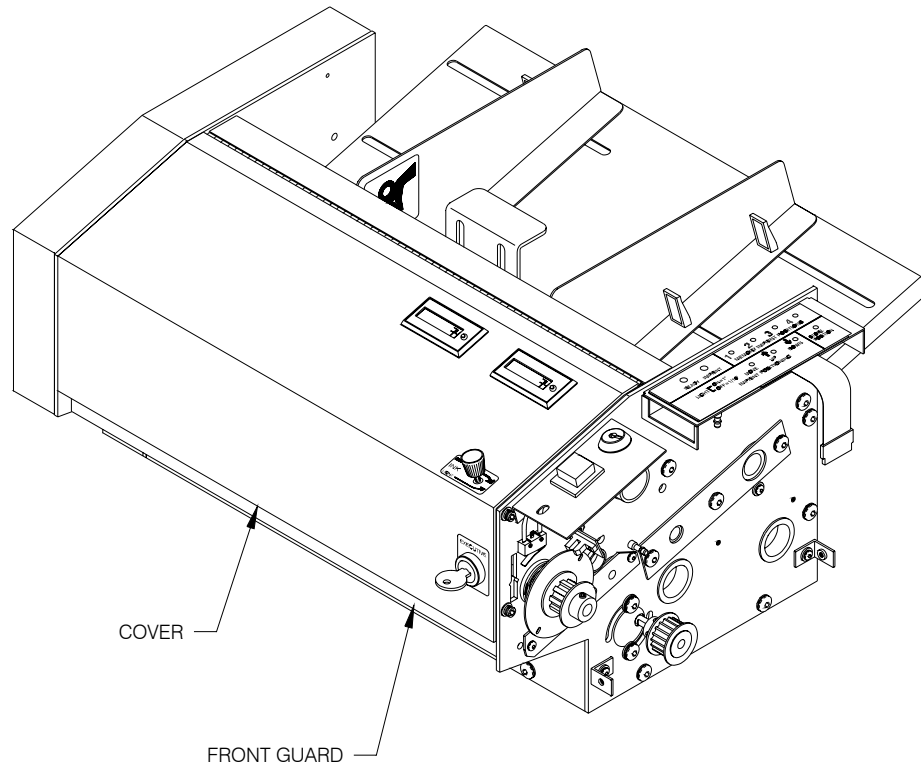

Figure 7.11 -- Front Guard
2. Remove the FRONT GUARD. (Refer to **Figure 7.11.**)